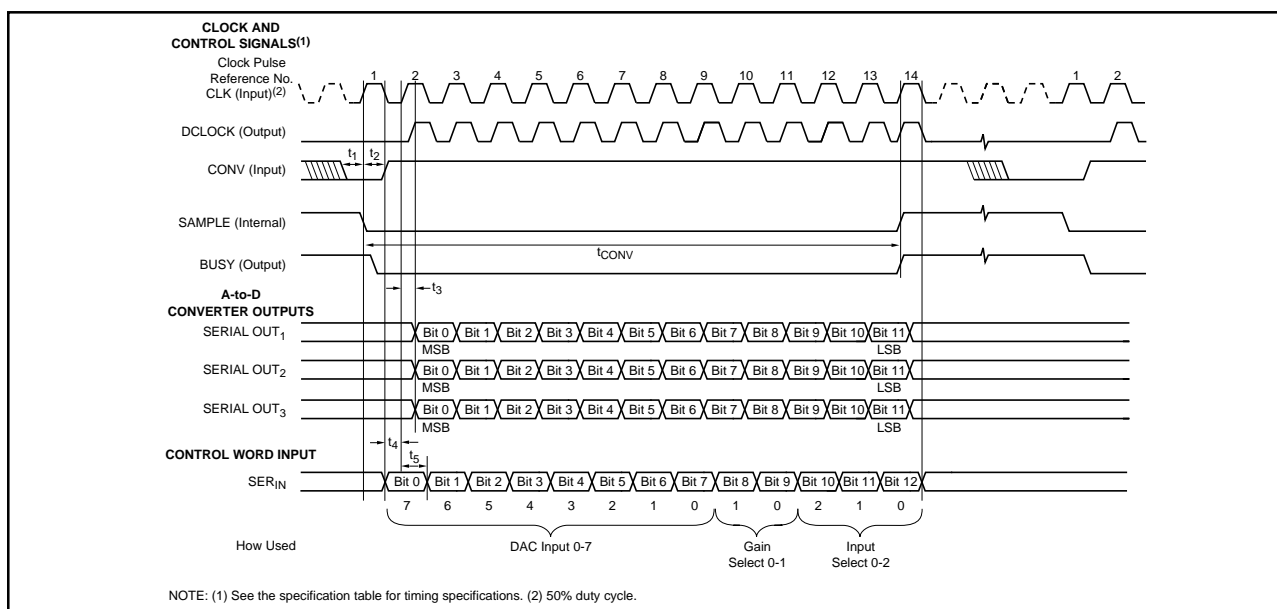

FIGURE 2. Timing Diagram.
The ADS7833 contains seven sample holds. Five of them (SH₁ through SH₅) sample simultaneously and have their sample/hold timing internally synchronized. (The timing is shown in Figure 2).
An 8-bit DAC provides 256 output voltage levels from 0V to 2.5V (see Table V for input/output relationships). The DAC is controlled by the DAC Input portion of the input setup word. The DAC Input portion of the word is strobed into the DAC at the end of the conversion cycle (14th CLK pulse in Figure 2).
Sampling and conversion is controlled by the CONV input (see Figure 2). The ADS7833 is designed to operate from an external clock supplied at the CLK input. This allows the conversion to be done synchronously with system timing so that transient noise effects can be minimized. The CLK signal may run continuously or may be supplied only during convert sequences. The BUSY and DCLOCK signals are internally generated and are supplied to make interfaces with microprocessors easier (see Figures 2, 4, and 6).
Configuration information for these parameters is contained in the SER_{IN} word (See Figure 2). As one conversion is taking place, the configuration for the next conversion is being loaded into the buffered Input Setup Register via the SER_{IN} word. Table I shows information regarding these parameters.
NOTE: (1) See Figure 2. "Clock Pulse Reference No."
The PGA gain is determined by the Gain Select portion (bits 8 and 9) in the SER_{IN} word (see Figure 2). There is one gain input that sets the same gain for all three PGAs. The gain values and allowable full scale inputs are shown in Table II.
The Input Select portion of the SER_{IN} word (bits 10, 11 and 12) (see Figure 2) are decoded and determine the open/closed condition of the multiplexer switches. This in turn determines which input signals are connected to the sample holds and which sample holds are connected to the PGAs/ADCs.
The value of the DAC output voltage is determined by the DAC Input portion of the SER_{IN} word (bits 0 through 7—see Figure 2). The 8-bit DAC has 256 possible output voltages from 0V to +2.49V. The value of 1 LSB is 0.0098V.